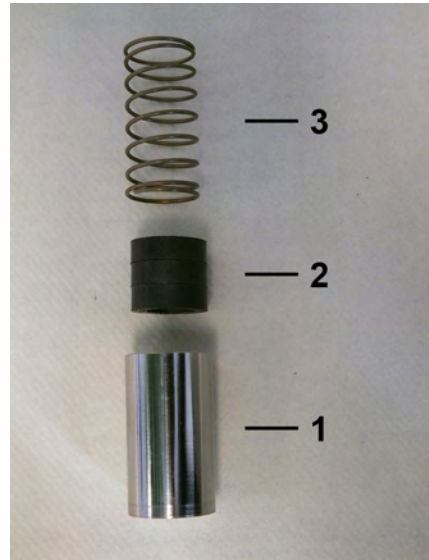

Fig. 48: Spring, magnets and float
- 12.** ▶ The inner parts of the flow monitor consist of the spring (Fig. 48/3), magnets (Fig. 48/2) and float (Fig. 48/1).